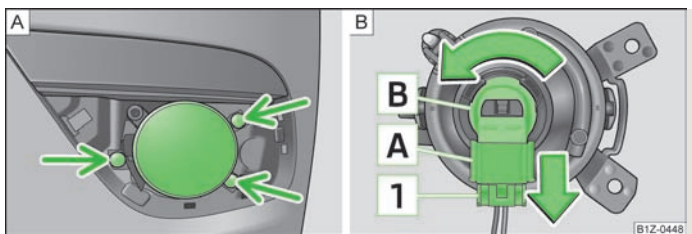

Fig. 169 Front bumper: Fog lights/fog lights: Replacing the light bulb
- › Use the screwdriver » page 185, *Vehicle tool kit* to remove the screws » Fig. 169 - .
- › Press the locking button  » Fig. 169 of the plug  and remove the plug from the socket .